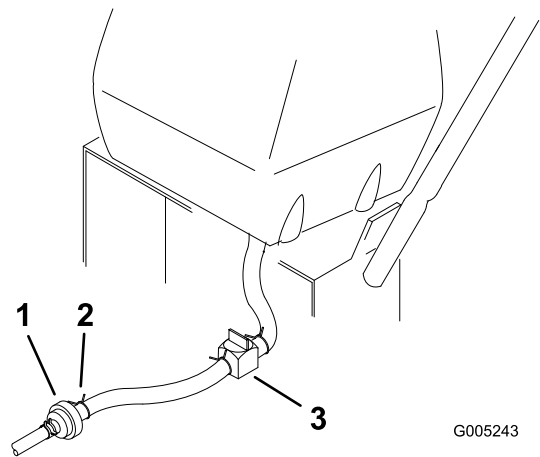

Figure 30
2. Close the fuel shut-off valve at the fuel tank (Figure 30).
3. Squeeze the ends of the hose clamp together and slide it up the fuel line away from fuel filter (Figure 30).
4. Pull the fuel line off the fuel filter (Figure 30). Open the fuel shut-off valve and allow the gasoline to drain into a gas can or drain pan.
3. Close fuel shut-off valve at the fuel tank (Figure 30).
7. Open fuel shut-off valve at fuel tank (Figure 30).